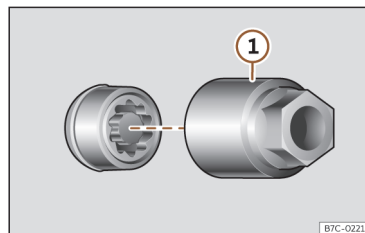

Fig. 243 Anti-theft wheel bolt with cap and adapter.
- Insert the special adapter >>> **Fig. 243 ①** (vehicle tools >>> page 323) onto the anti-theft wheel bolt and push it on as far as it will go.